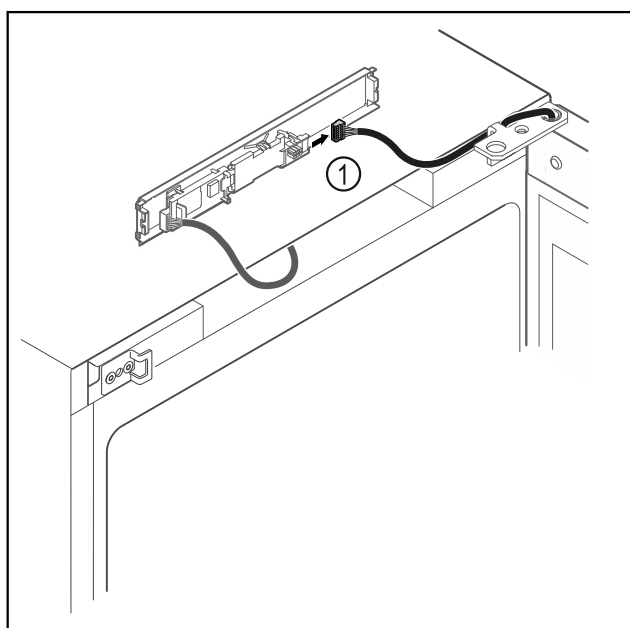

Fig. 7
- Disconnect the plug Fig. 7 (1) from the circuit board.